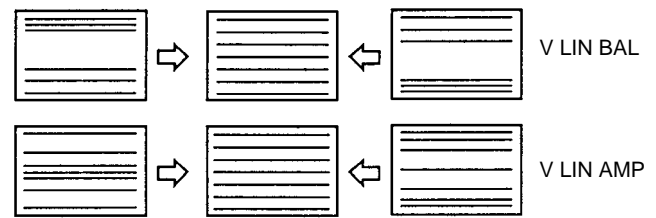

Fig. 1-9
9. Adjust the respective V SIZE, V LIN BAL, V LIN AMP and H SIZE data so that the optimum picture is obtained as shown in Fig. 1-9.